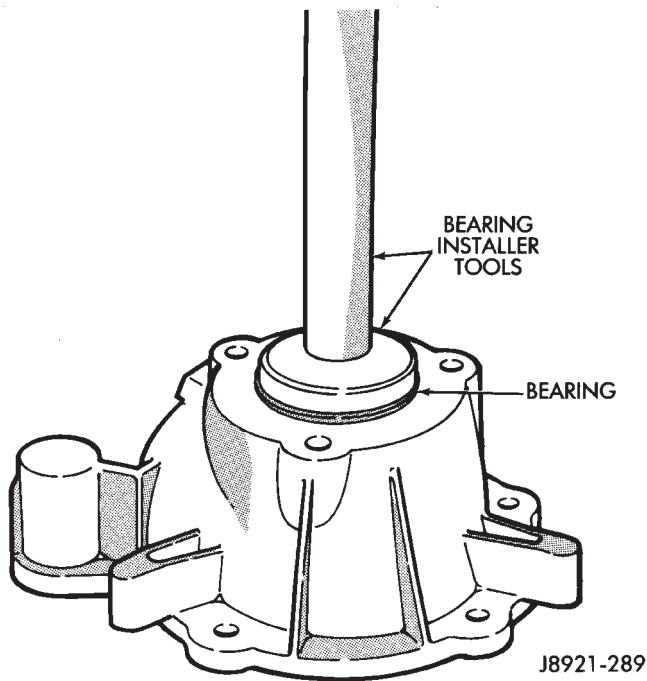

Fig. 81 Installing Rear Bearing In Retainer
(61) Apply 3 mm (1/8 in.) wide bead of Mopar gasket maker, silicone adhesive sealer, or Loctite 518 to seal surface of front case.
(62) Align and install rear case on front case. Be sure case locating dowels are in place and that mainshaft splines are engaged in oil pump inner gear.
(63) Install and tighten the front case-to-rear case bolts to 41 N·m (30 ft. lbs.) torque. **Be sure to install a washer under each of the bolts used at the case dowel locations.**
(64) Tap rear retainer bearing out of retainer with hammer and brass drift.
(65) Install new bearing in rear retainer with driver tools (Fig. 81).
(66) Apply 3 mm (1/8 in.) wide bead of Mopar gasket maker, silicone adhesive sealer, or Loctite 518 to seal surface of rear retainer.